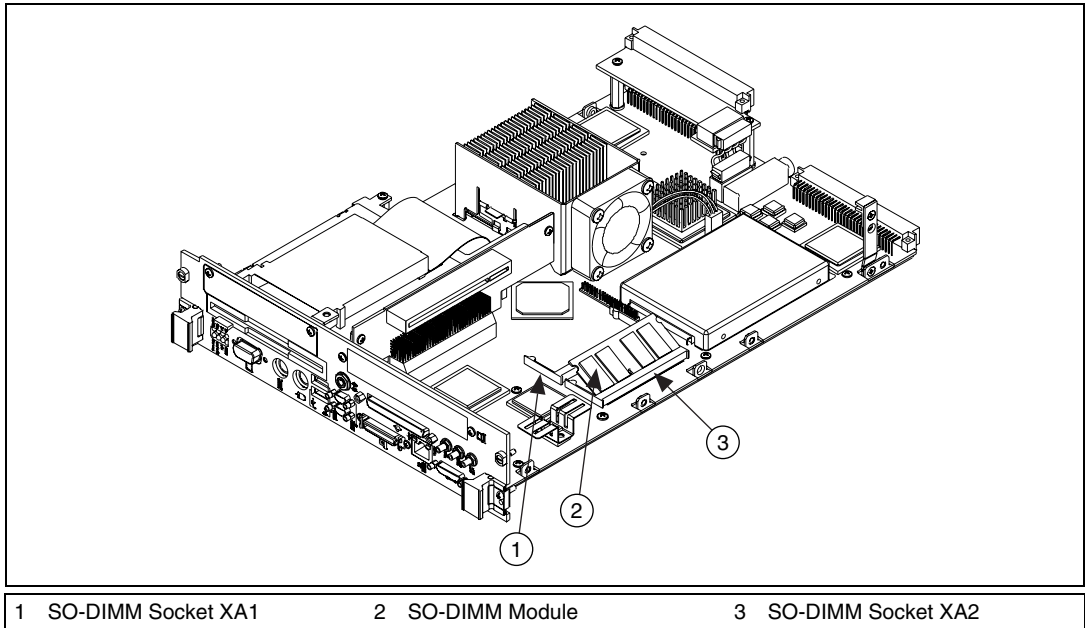

Figure 2-2. Installing a SO-DIMM in an VXIpc 770/870B Series Controller
3. Add the SO-DIMM modules to the empty SO-DIMM sockets. See Figure 2-2.